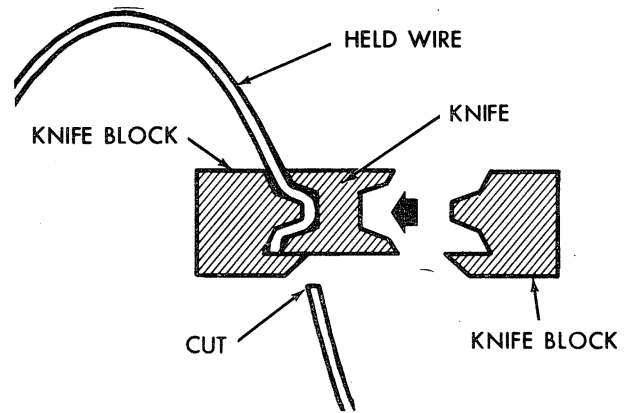

Figure 84
2. If the $\frac{3}{32}$ " dimension is not obtained, loosen the locking collars located next to each flanged bearing on the twister drive shaft. Move the entire assembly laterally by adjusting the slotted nut (2), Figure 84, at each end of the drive shaft. Then tighten the locking collars by driving them in the direction of shaft rotation. Tighten the set screw in each collar.
1. Place a short piece of wire between the knife and the left-hand side of each knife block, Figure 84.